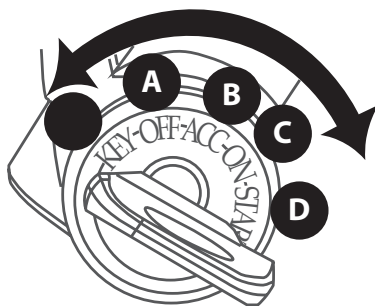

Figure 3
3. Insert the key into the ignition and turn it to the START position. Release the key when the engine starts (Figure 3).